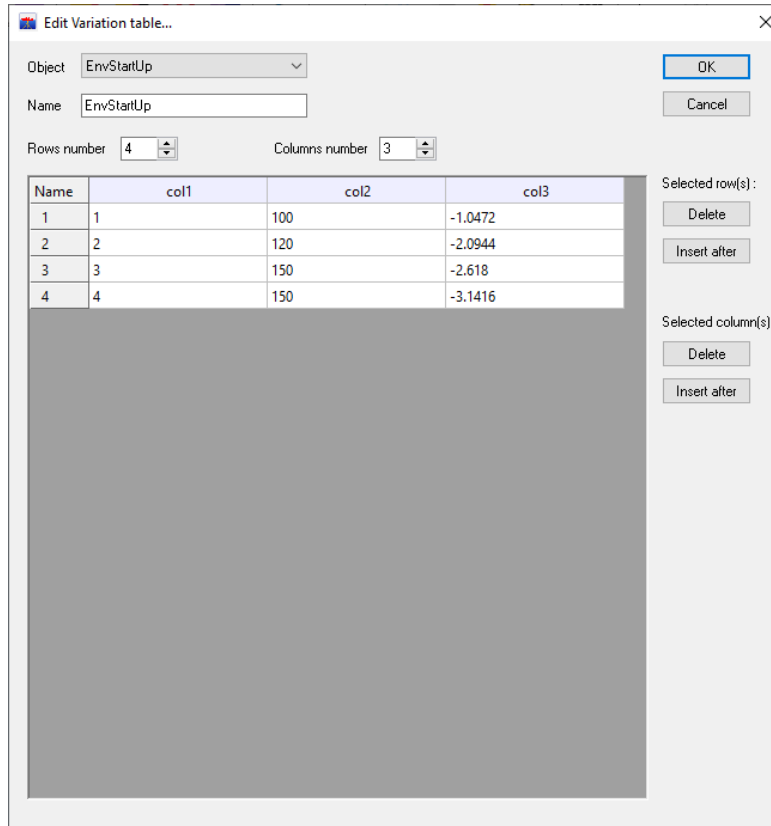

Figure 4-5 : Env. Table associated with the StartUp
- 2) Define an Environmental table (if needed) as shown on Figure 4-5;